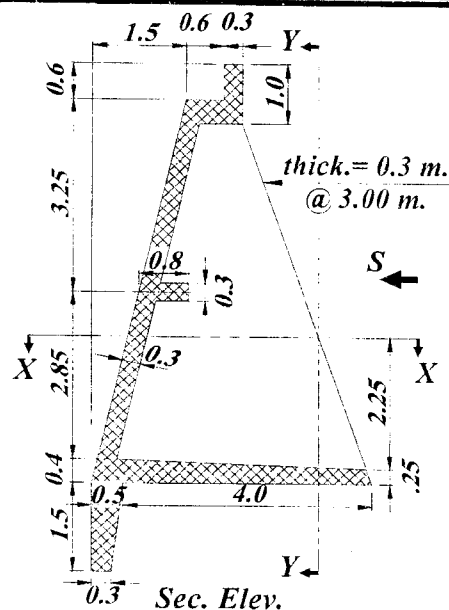

Figure 1
1. b) Figure 1 illustrates section elevation of a REINFORCED CONCRETE RETAINING WALL. It's required to draw to scale 1:50 the following views:
- b. A metallic member having a cross section of $5 \times 5 \text{ cm}$ is subjected to axial tensile forces T as shown in Fig. 1. The measured strain at Point 'A' is 0.00125. The stress strain curve of the material is given. Determine the followings:
Strain at Point A = 0.00125 **Fig. 1**